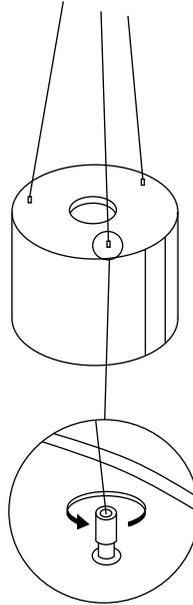

Fig 10
8. Lift the Nabucco up to the strings and unscrew the holders (Fig 10).